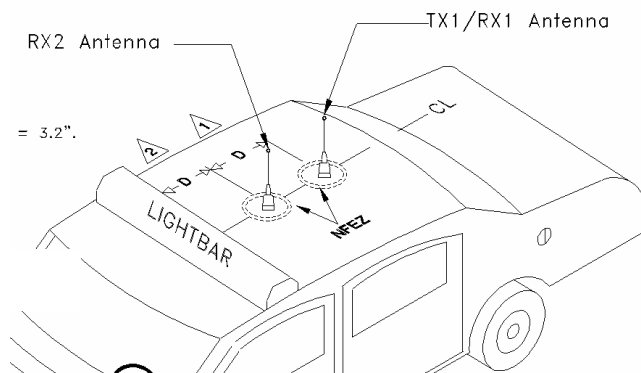

Figure 11
**Step 1** Install antennas (see sample drawing DT450-10-0201 and Fig. 11 below).
**NOTE:** Figure 11 represents the recommended front-to-rear antenna installation. The receiver antenna (RX2) should be the antenna nearest to the light bar.